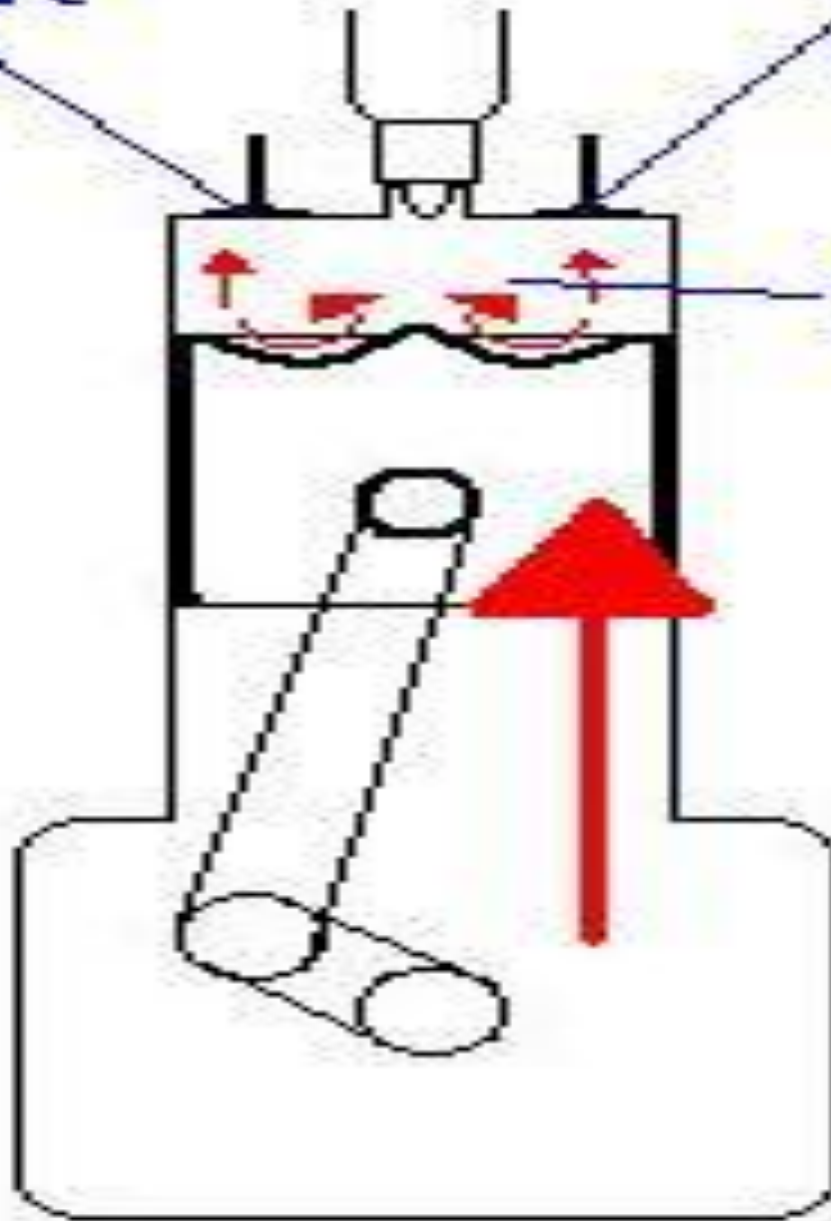

Figure11: Compression stroke
- **Compression Stroke** : The same as in an SI engine except that only air is compressed and compression is to higher pressures and temperature, refer figure 11.